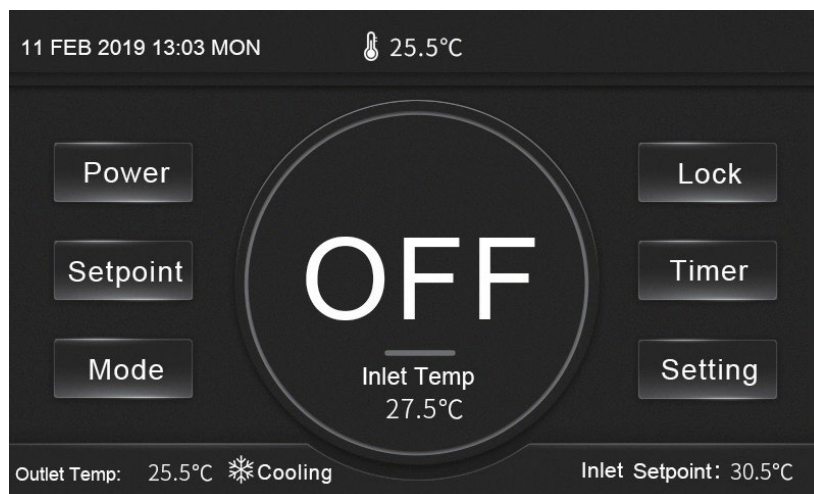

Fig.2 Power-off interface
On the main interface, press the "Mode" button (③) to toggle between cooling and heating modes. The current operating state is displayed on the status bar (⑧). Additionally, on the power-on main interface (Fig. 2), the color of the display circle (⑨) changes according to the operating state (blue for cooling, red for heating).